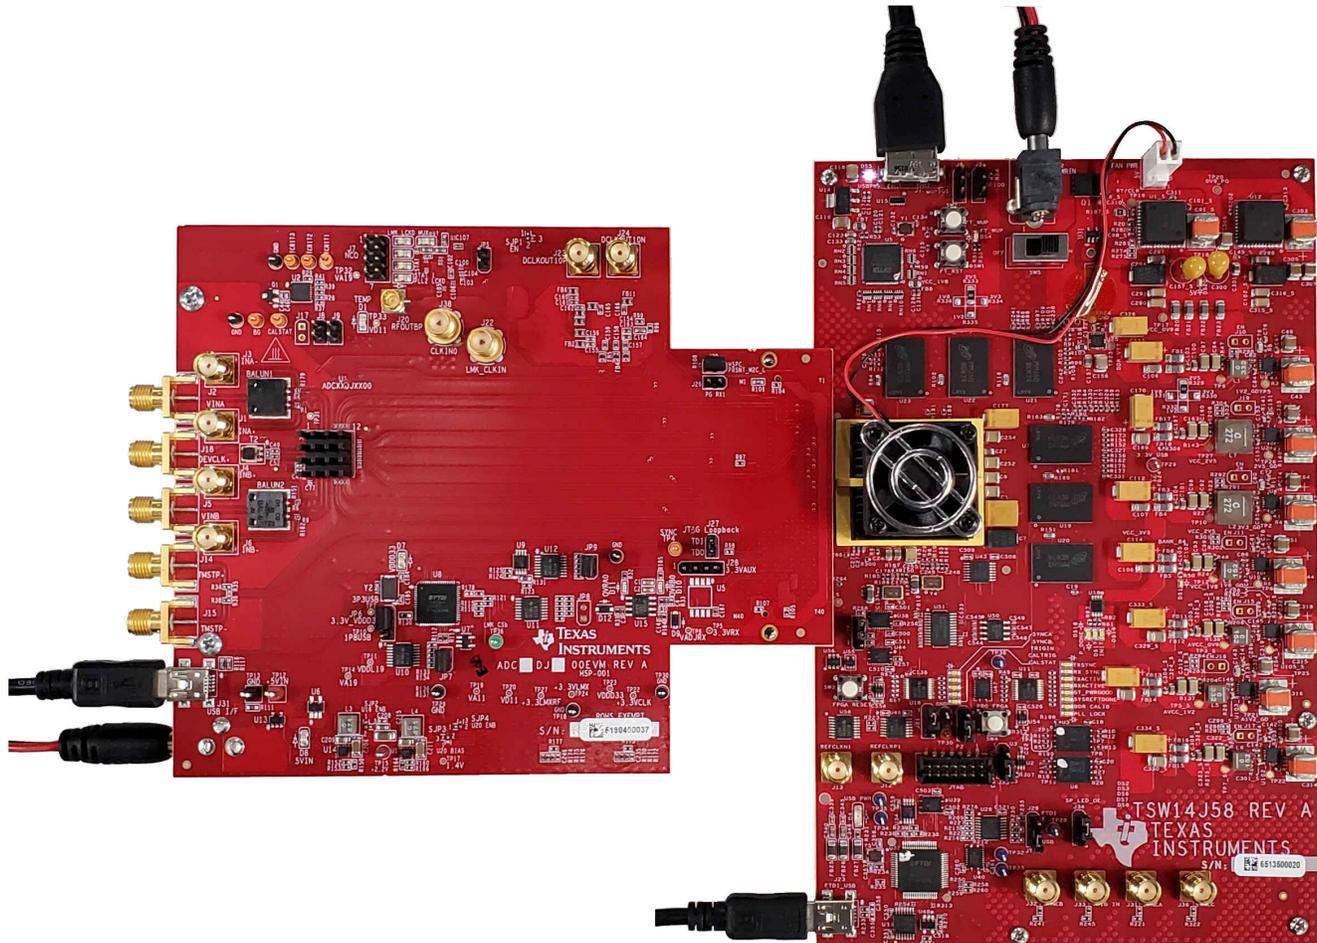

Figure 6-2. TSW14J58 EVM connected to an ADC12DJ3200 EVM
- The TSW14J58 EVM connected to an ADC12DJ3200 EVM is shown in Figure 6-2.